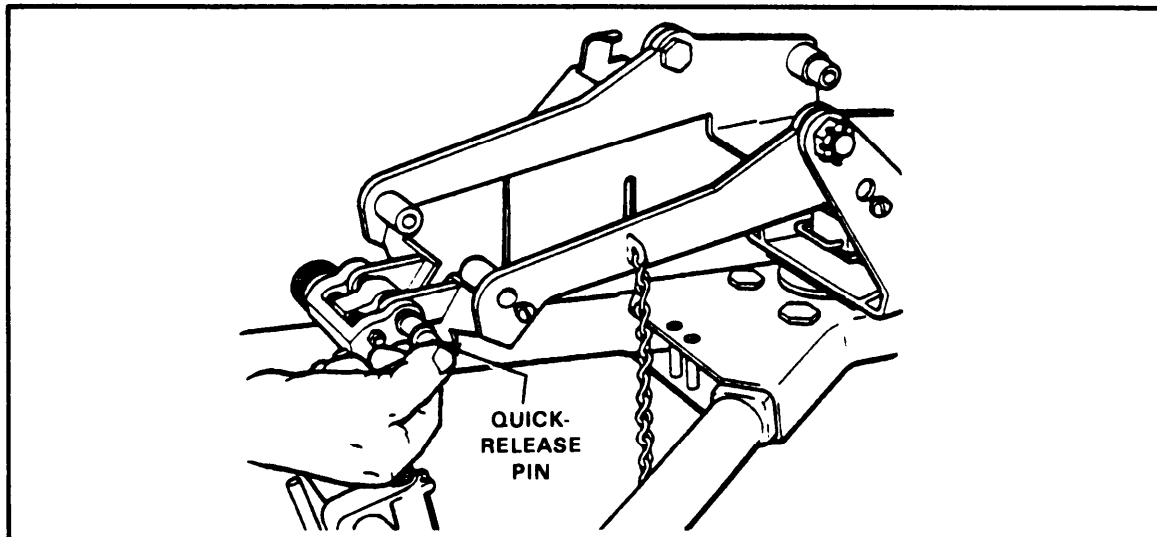

Figure 3-7. Quick release pin.
(5) Lock the elevating sleeve mechanism onto the center of the traversing bar.
- (6) Insert the quick-release pin from the right (Figure 3-7).